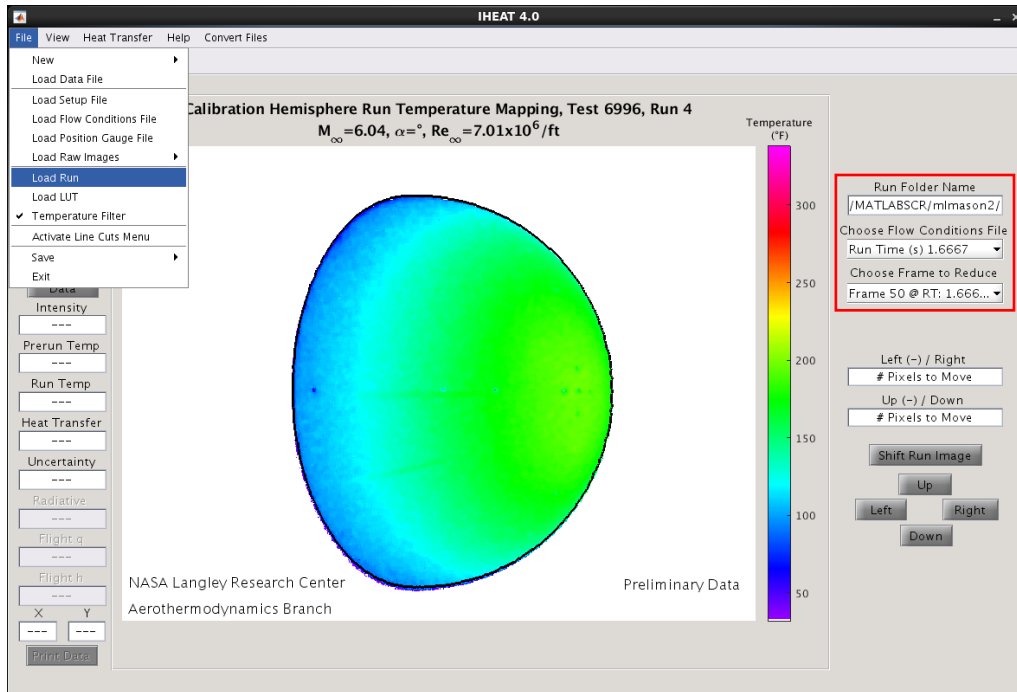

Figure 3: File Menu, Load Run.
After specifying the appropriate run folder, click *Load Run*; at this point, the menus on the right side of the main GUI window will change to include those shown in figure 3. If another run is already open, the user is prompted to select *New > Test*, *Run* or *Batch* prior to *Load Run*. If set-up and position gauge files are located in the run folder, these files are loaded into IHEAT v4.0 (provided the run folder only contains one .ihs file). If the set-up file is in a different directory, a pop-up message asks the user to specify the directory that contains the set-up file so the file can be loaded. If the number of .tekflw files matches or exceeds the number of run images in the folder, the flow conditions files are loaded into a
drop-down menu, organized by the run time in each file. *Load Run* also loads in the pre-run image as long as one, and only one, image in the run folder contains a capital “P” in the file name. All of the remaining *.tif* files in the run folder are loaded in as run images, and organized by frame number in the lower drop-down menu shown in figure 3.
- The next item in the *File* menu in figure 3 is *Load LUT* in which the user can load in a different LUT file than the one specified in the set-up file. The LUT file must be a *.dat* file.